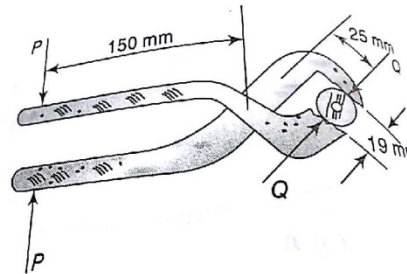

Figure 2.14
15. A pair of adjustable pliers is used for turning a piece of 19 mm pipe as shown in Figure 2.14. For the dimensions shown, what compressive forces Q are applied to the sides of the pipe when the hand grip is represented by applied collinear forces P ?